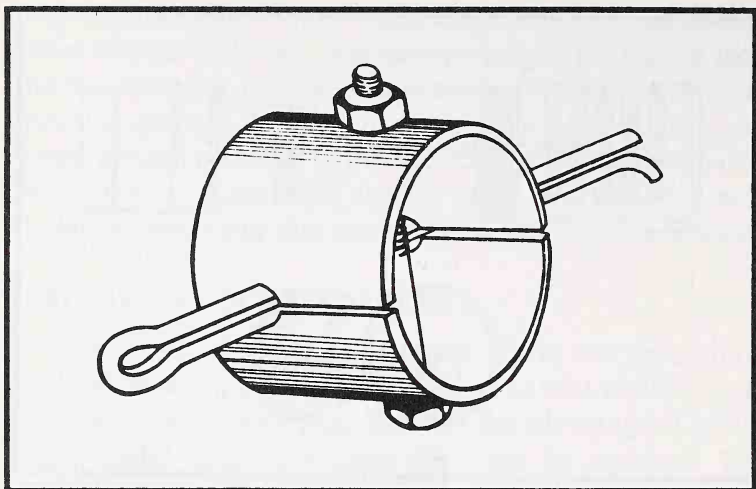

Fig. 23-2. A cylinder removal clamp. (Courtesy Desert Publications.)
This means shearing off the screws that hold the cylinder in place. Several different rim cylinder removal tools are available. The one in Fig. 23-2 can be made in your own shop. It's called a cylinder removal clamp.
2. Cut into the tubing as shown in Fig. 23-2 about $1\frac{3}{16}$ in.